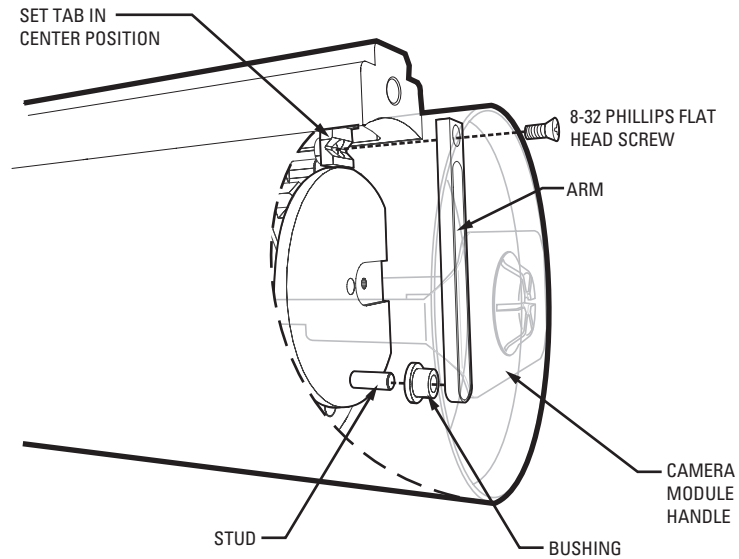

Figure 5. Install Wiper Arm
4. Refer to Figure 5 and do the following to install the arm of the wiper:
- a. Place the supplied green bushing on the stud located behind the handle of the camera module. The bushing should be in the same orientation as shown in Figure 5.
5. Secure the arm of the wiper and the camera module with the supplied 8-32 Phillips flat head screw (refer to Figure 5).